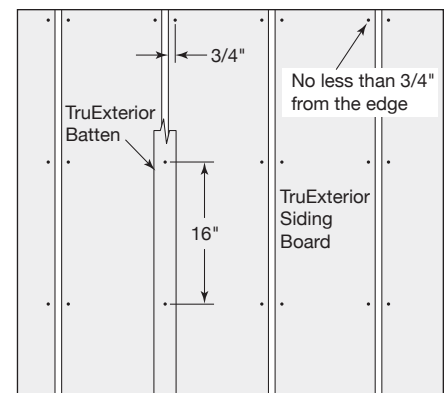

Fig. 39
- Make sure your nail gun is set to drive the nail head even with the surface of the siding boards (**Fig. 39**)